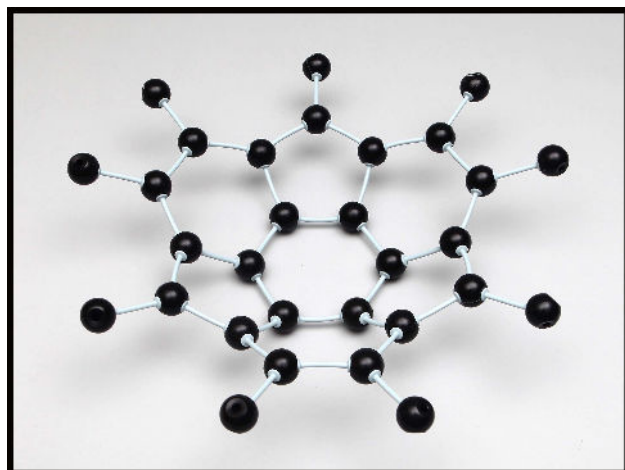
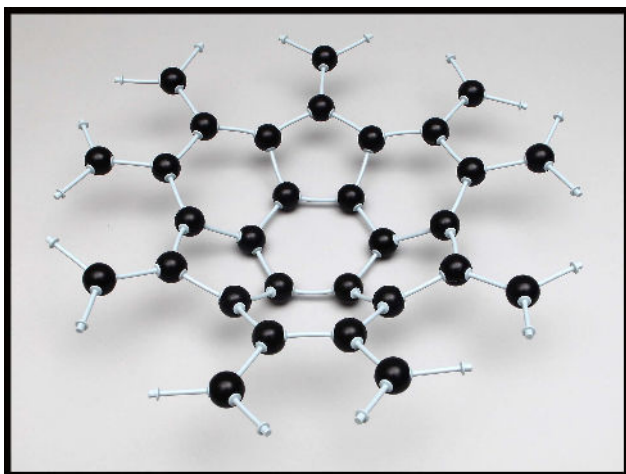
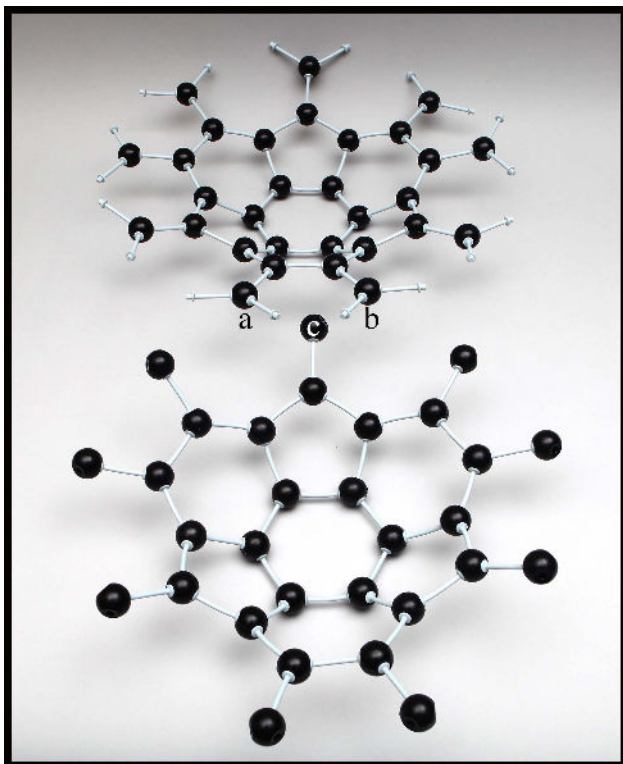

Fig. 6 Nine atoms added to the periphery of the model. One half of the Buckyball.
Fig. 7 Nine outer atoms with connectors attached. Second half of the Buckyball.
Fig. 8 Aligning both halves of the model for joining.
6. Attach atoms to all of the free ends of the grey connectors just added in step 5. (Fig. 6)
7. Repeat steps 1 through 6 to make a second layer of the model, which looks like Fig. 6.
8. Insert two connectors in the outer atoms of **just one** of the layers. (Fig. 7)
- 9 Place the first half you made, (Fig. 6), close to you and the second half, (Fig. 7), further away. Join connectors a and b to atom c. (Figs. 8 and 9)